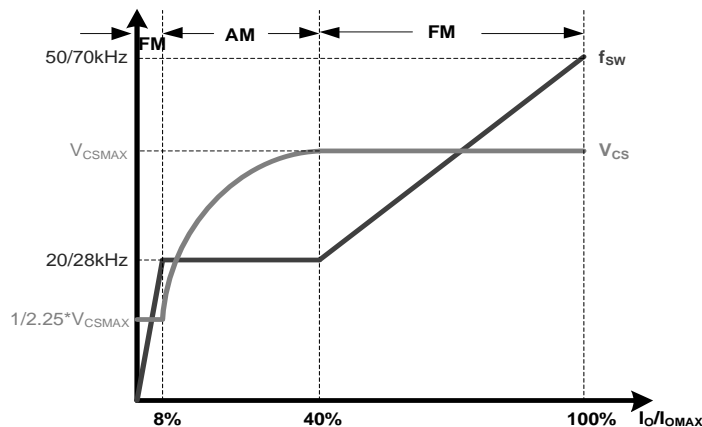

Figure 4. Segment Peak Current and Operating Frequency at CV Mode
In order to avoid audible noise issue, AP3987CT uses 3-segment primary peak current control method at Constant Voltage (CV) mode, the current sense threshold voltages are multiple segments with different loading, as shown in Figure 4, which are V_{CS_H} for high load, varied V_{CS_M} for medium load and V_{CS_L} for light load. In no load and ultra light load condition (NL mode), the current reference is also V_{CS_L} . But the operation in NL mode is different, which will be described in next section.